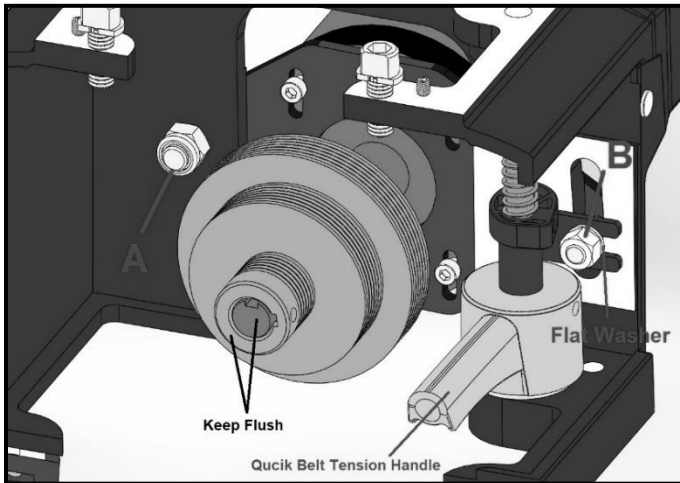
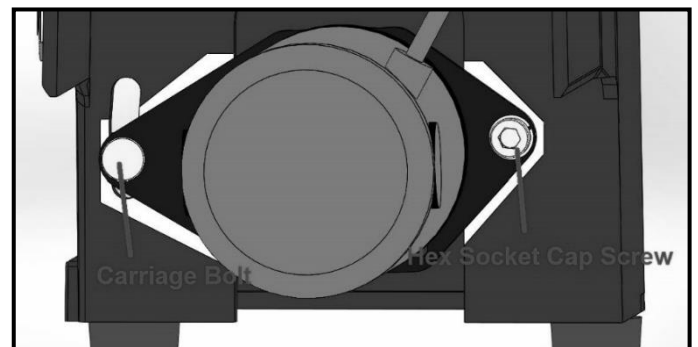

Fig. 1
Fig. 4
2. Loosen the two hex nuts (A & B, Fig.1) to remove the whole motor assembly (with motor plate, motor and pulley) away from the casting bed.
7. Attach the motor pulley back to the motor shaft by tightening the two set screws. Please make sure the edge of the pulley to be flush with the edge of the motor shaft while tightening, as shown in Fig. 1.
8. Attach the whole motor assembly back to the casting bed by using the two screws, two nuts and one flat washer as shown in Fig. 1 and Fig. 4. Do not fully tighten up the two nuts! You have to keep a little space for sliding the motor plate on the casting bed.